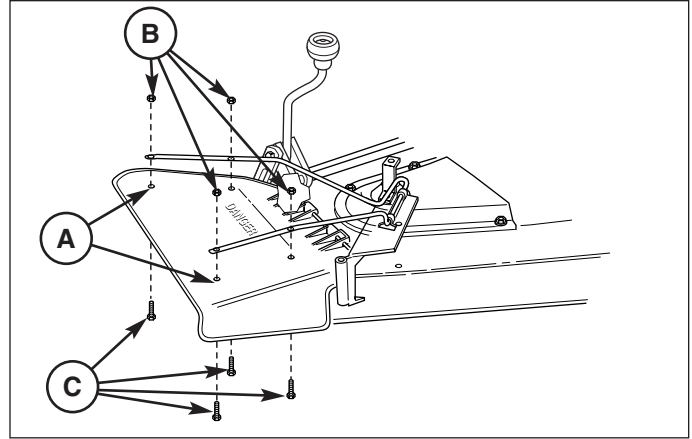

Figure 6. Install Deflector
1. See Figure 6. Drill four 13/64" holes from the bottom of the deflector at the pre-molded drill points (A, bottom of deflector).